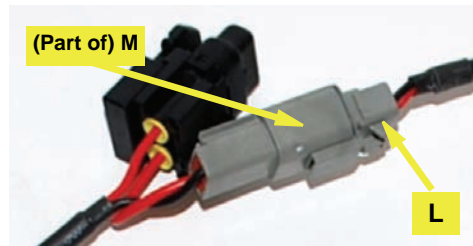

Figure 4c: Power cable to junction box cable
- d. Connect the gray connector of the power cable **L**, routed to the cab at step 4a, to the gray cable from the junction box **M** (Figure 4c).